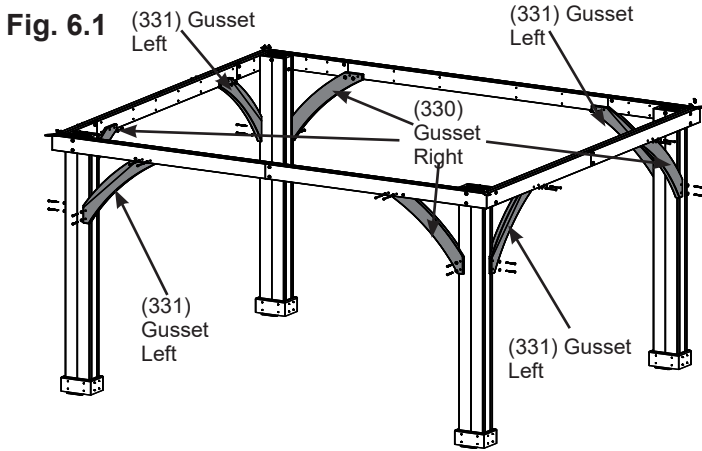

Fig. 6.1
A: Make sure the assembly is still square and level then facing one Long or Short Beam Assembly place one (330) Gusset Right on the right hand side so the top fits tight to the Beam Assembly and the bottom fits tight to the Post Assembly. Attach gusset to Beam Assembly with two 5/16 x 3-3/4" Hex Bolts (with 5/16" lock washer, 1/4-5/16" large washer and 5/16" t-nut). Pre-drill with a 1/8" drill bit then attach gusset to Post Assembly with two 5/16 x 3" Lag Screws (with 1/4-5/16" large washer). (fig. 6.1, 6.2 and 6.3)
B: Repeat Step A on the left hand side with one (331) Gusset Left. (fig. 6.1, 6.2 and 6.3)
C: Repeat Steps A and B for each Beam Assembly/Post Assembly. (fig. 6.1, 6.2 and 6.3)